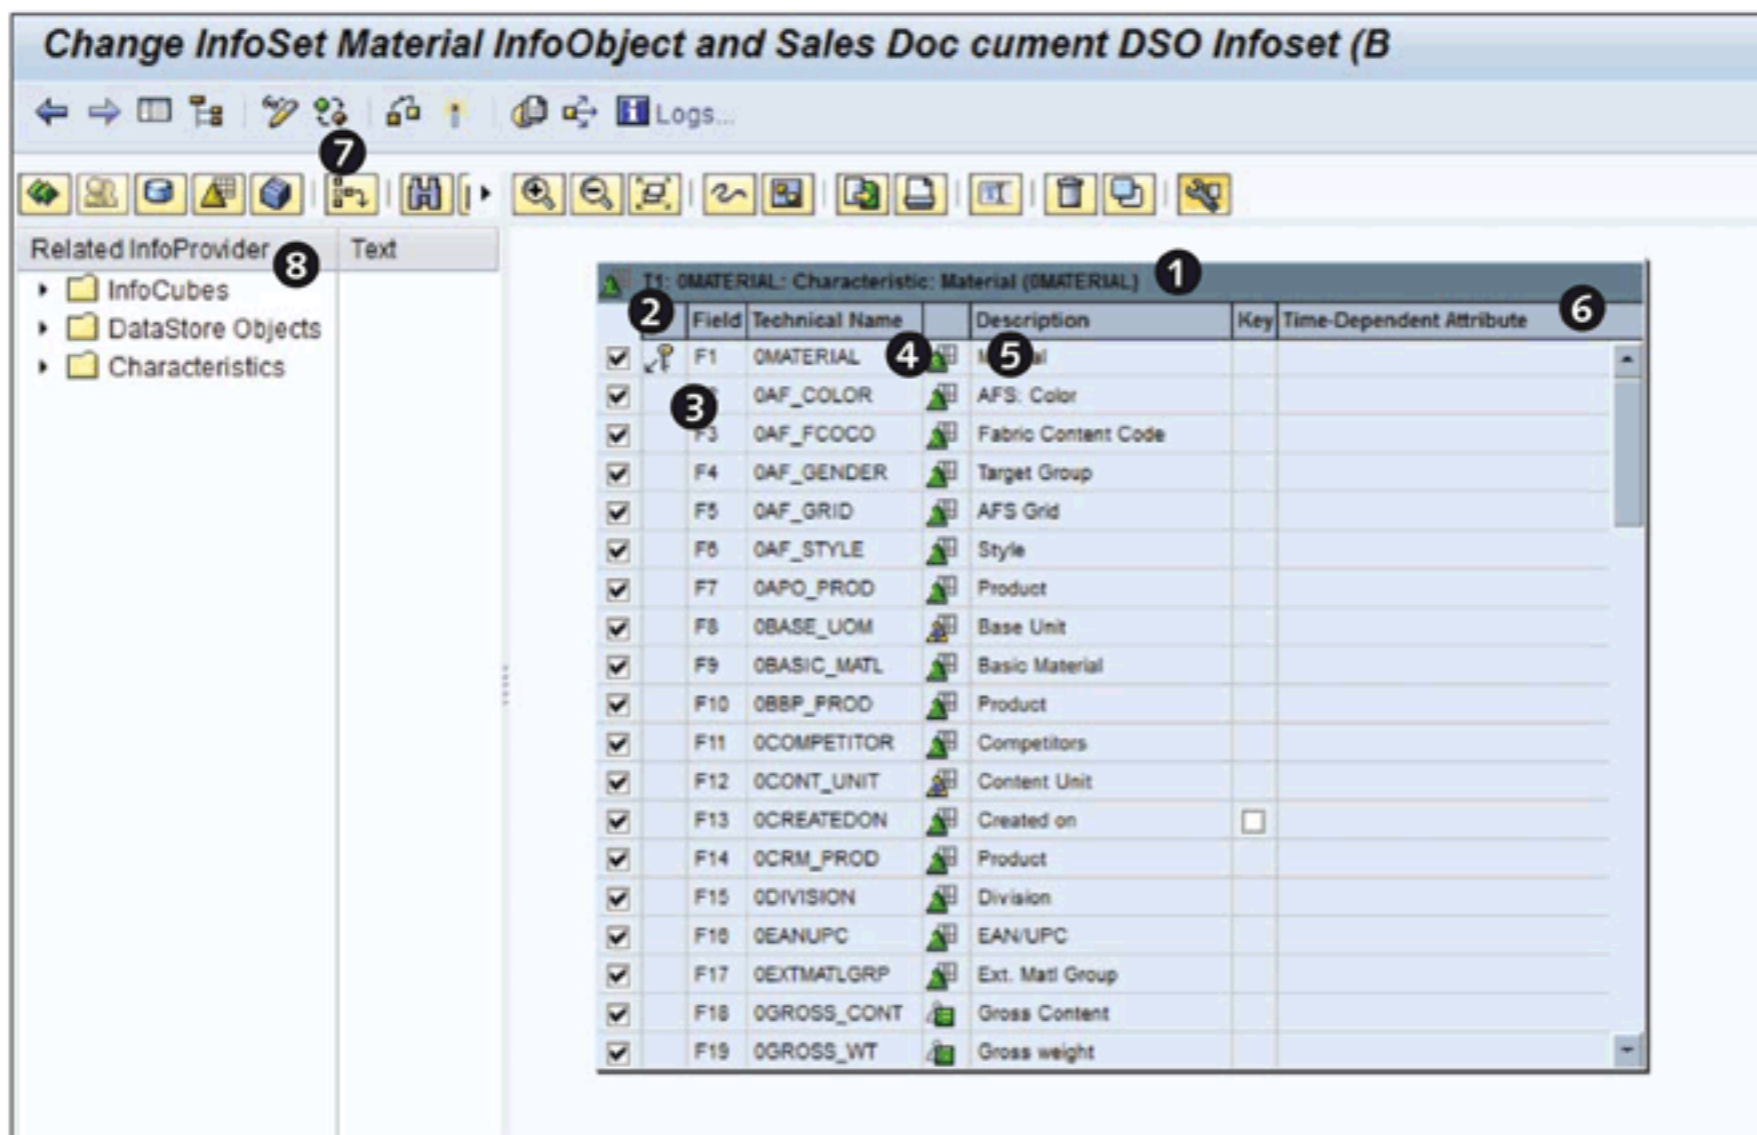
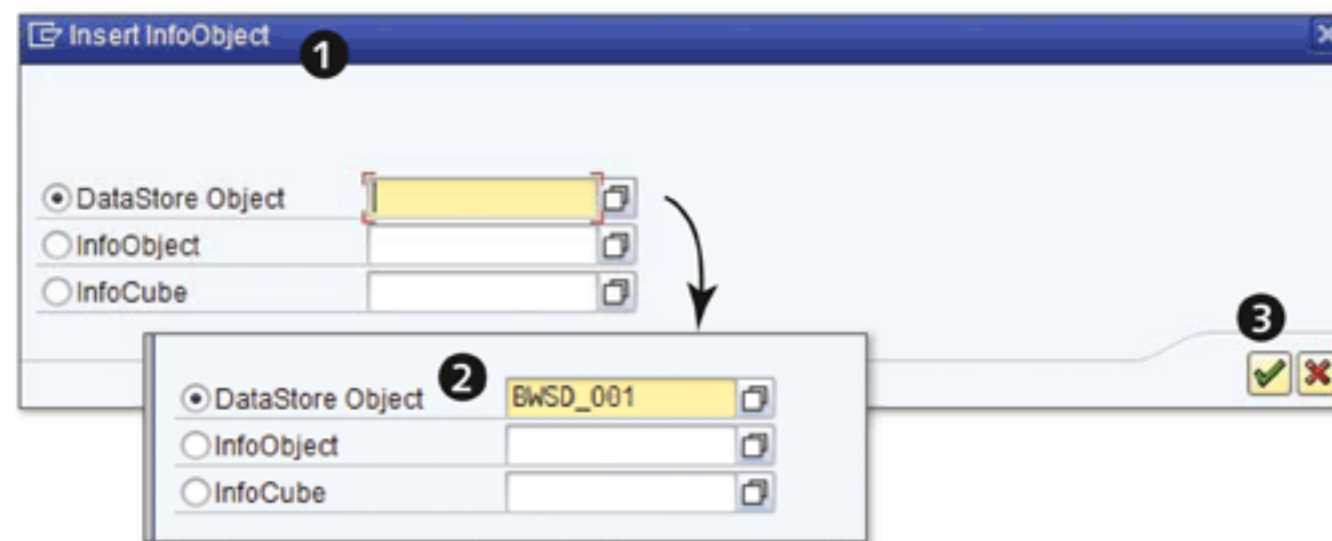

Figure 6.21 Understanding the Initial Screen
Figure 6.22 Inserting Second Source
The START WITH INFOPROVIDER area allows you to supply the technical name of the first source you want to include in the definition of your InfoSet BWSD_IS1. In our example, we want to include an InfoSet based on an InfoObject 0MATERIAL and DSO object BWSD_OO1. Select the INFOOBJECT radio button, and enter the name of the InfoObject "0MATERIAL" (6). Now click on the CONTINUE (7) icon (7). The resulting screen is shown in Figure 6.21.
InfoObject `OMATERIAL` is included as part of InfoSet `BWSD_IS1`. SAP NetWeaver BW internally allocates the number `T1` to the first object that is included in this definition (see ❶ of Figure 6.21). For the subsequent objects you include, it gives the number `T2`, and so on.
Not all columns have titles, so we've numbered them to explain their significance. Column ❷ of Figure 6.21 allows you to decide whether you want to include particular attributes of the `OMATERIAL` InfoObject in the final definition of the InfoSet. By default, SAP NetWeaver BW includes all of the attributes. Column ❸ indicates whether the particular InfoObject is a key. For example, the InfoObject `OMATERIAL` key is the key for InfoObject `OMATERIAL`; for a DSO, all of the key fields are indicated as a key with a key icon (🔑). Columns ❹ and ❺ indicate the technical name and description of the attributes, respectively. Column ❻ indicates whether the field is included or excluded while defining the result for a temporal join. The checkbox is only shown when the field is a date field; for example, for field `F13`, the checkbox is shown for `OCREATEDON`, which is a date field.
Now you're ready to include your next source in the definition of InfoSet BWSD_IS1. Select the INSERT INFOPROVIDER icon (📄➕), as shown in 7 of Figure 6.21. A pop-up box titled INSERT INFOOBJECT appears, as shown in 1 of Figure 6.22. Three choices (DATASTORE OBJECT, INFOOBJECT, and INFOCUBE) are available as InfoSet definitions and can include either of the objects. Our example InfoSet is based on InfoObject OMATERIAL and DSO BWSD_O01.
Next, select the DATASTORE OBJECT radio button (if not selected already), and enter the technical name "BWSD_O01," as shown in 2 of Figure 6.22. Now click on the CONTINUE icon (☑) (3).